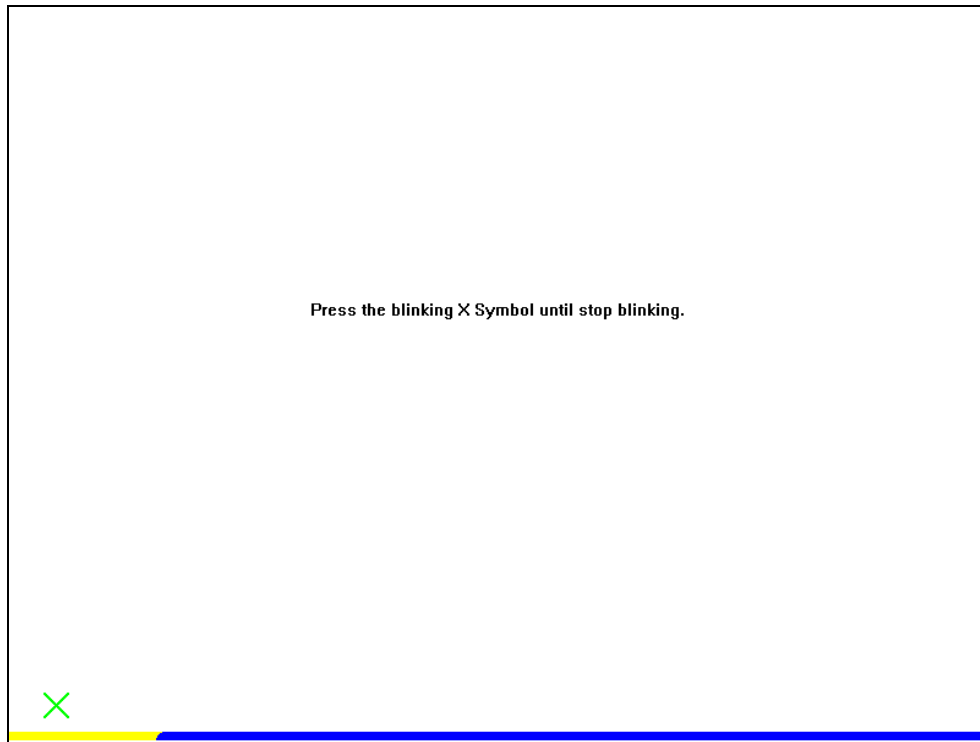

Fig 4.2 Touch Screen Calibration Screen
2. Place a blocking pad on the alignment block. (See Fig. 4.2) The pad must have a hole in the center to allow the camera to see through the hole on the center of the finishing block.